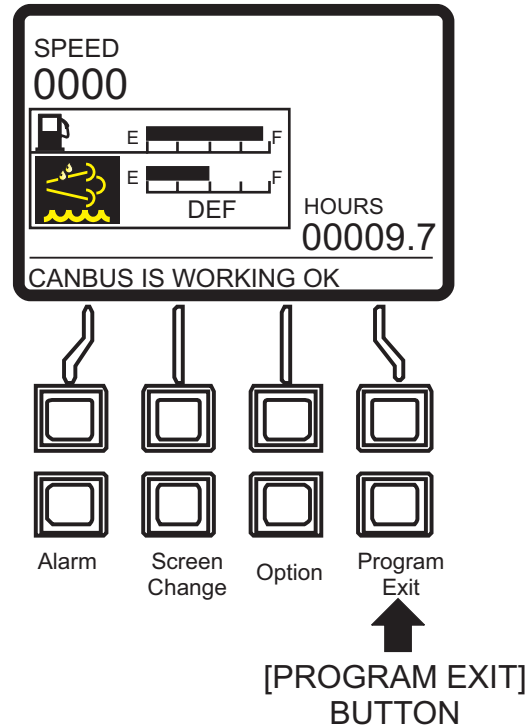

Figure 96. Main Screen
3. Press the **[Program/Exit]** button (Figure 96) to enter the Main Menu.